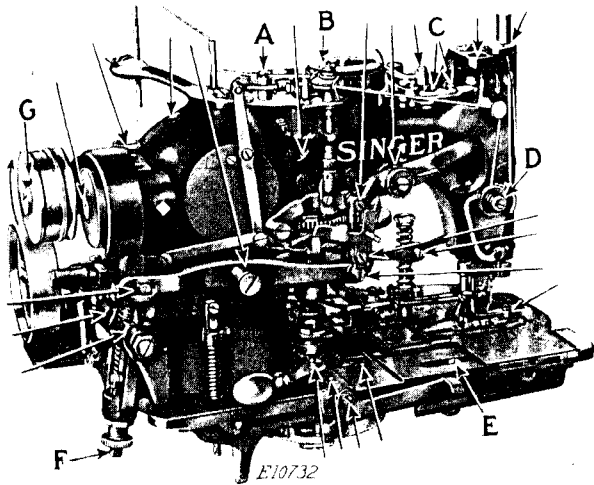

Fig. 7. Oiling Points at the Left of the Machine
The maximum speed recommended for Machines 71-101 and 71-103 is 2000 stitches per minute. When the machines are in operation, the driving pulley should turn over to the left as indicated by the arrow in Fig. 7.
Occasionally remove the screw (G, Fig. 7) from the loose pulley and apply a small quantity of Singer Ball Bearing Lubricant to the ball bearing of the pulley through the tapped hole, then replace the screw (G).
Machines 71-101 and 71-103 have two thumb nuts (B and D, Fig. 7) for regulating the tension on the needle thread. When making purl stitch buttonholes the tension on the needle thread should be sufficiently strong to draw the purl evenly to the upper side of the buttonhole. When making whip stitch buttonholes the tension on the needle thread should be set equal to the tension on the bobbin thread.
The amount of cutting space between the lines of stitching is regulated by the screw (E, Fig. 7) in the slot in the bed of the machine. To make the cutting space wider, loosen this screw and move it backwardly in the slot. To make the cutting space narrower, move the screw toward you in the slot, then tighten the screw.
The needle bar frame pitman is adjustable by means of the two screws (C, Fig. 7); loosen these screws and move the needle bar frame until the needle on the right hand dip and knife are in exact alignment or to the left of the knife, half the amount of the cutting space, when the machine is stitching the first side of the buttonhole.